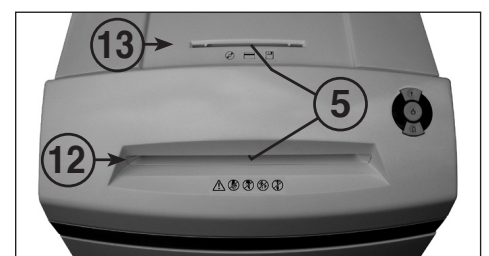

fig. 3
- 5 = Light barrier (Forward motion) (fig. 3)**